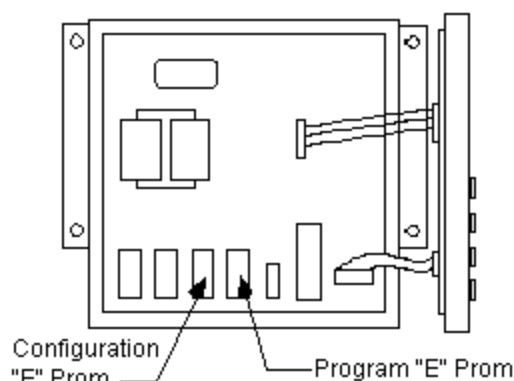

Figure 3
- See figure 3 for location and directional positioning of the EPROMS. Note that there is a small notch at the narrow end of these "chips" and that this notch is at the end of the chip closest to the front of the instrument.